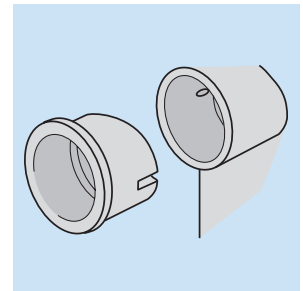

Fig. 33
- If 1½" connections are required cut off socket plug and use as a reducer (Fig.33).